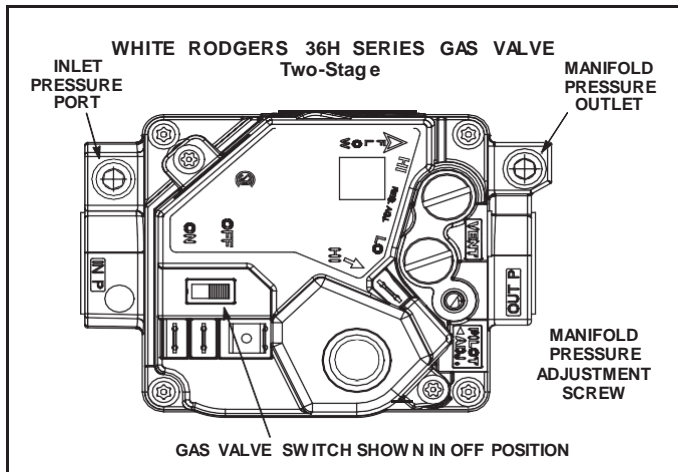
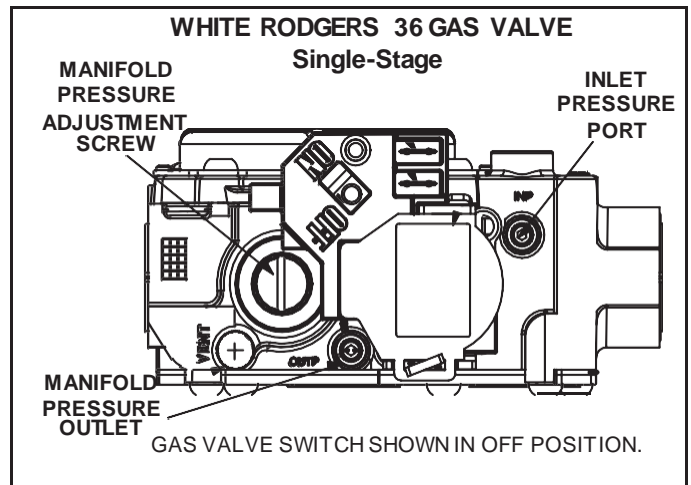

FIGURE 9
FIGURE 10
The heater and its individual shut off valve must be disconnected from the gas supply piping system during any pressure testing of that system at test pressures in excess of 1/2 psig (3.45kPa). See figure 9.
OPERATION OF WHITE RODGERS 36H SERIES VALVE (FIGURE 9) AND WHITE RODGERS 36G SERIES GAS VALVE (FIGURE 10)
- 2 - After line pressure has been checked and adjusted, check regulator pressure. Correct manifold pressure is shown on the unit rating plate. See figures 9 and 10 for gas pressure adjustment screw location. A natural gas or LP/propane gas changeover kit is required to convert the unit in the field. Refer to installation instructions provided with changeover kit for conversion procedure.